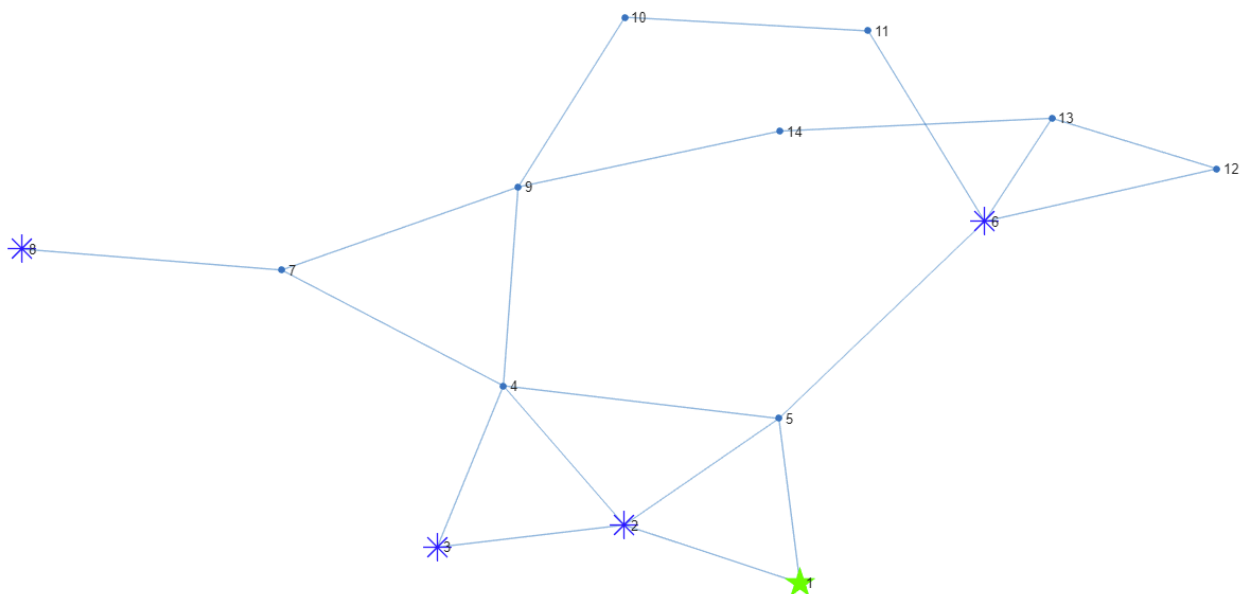

Figure 1: 22 bus PPL system.
Assume that you are an operation engineer working for EPSTSO. Your job is to provide engineering support for the real-time operations of your 14 bus power system which supplies PoliMi (represented in Figure 1). The green bus represents the slack bus, while the blue ones represent the generator (PV) buses.